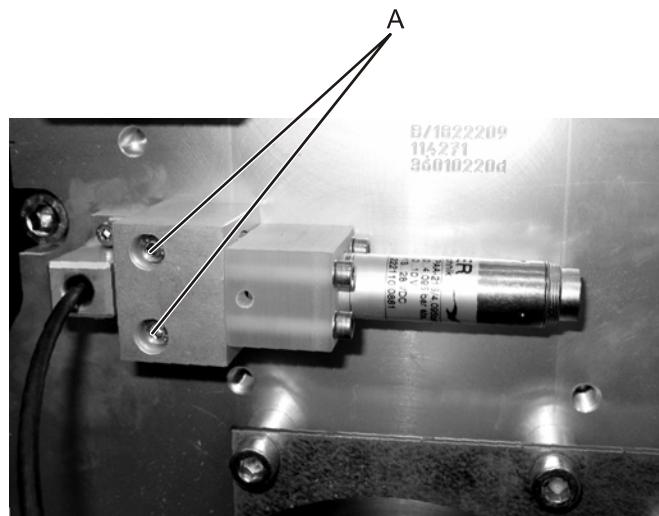
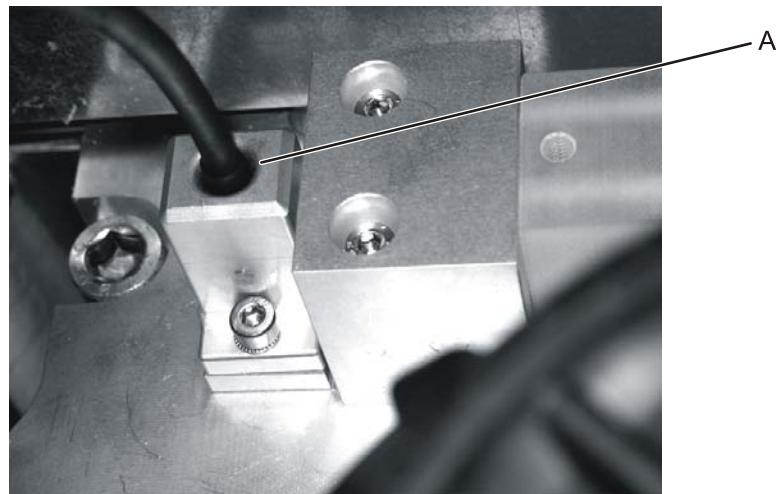

Figure 39: Pressure sensor securing screws
Figure 41: Location of temperature sensor
18. Gaining access through the lower air intake opening, use the 3 mm allen key to slowly loosen one of the two screws securing the pressure sensor (see Figure 39, A). If a release of gas is not felt, immediately tighten the screw and increase the inert gas pressure in the laser tube (either press <NEW FILL> and select MAN. INERT or open the internal inert gas valve as described in step 10).
9. Gaining access through the lower air intake opening, use the 3 mm allen key to loosen and remove the temperature sensor (see Figure 41, A) from the laser tube. The temperature sensor is located next to the pressure sensor (see Figure 39 on page 65).